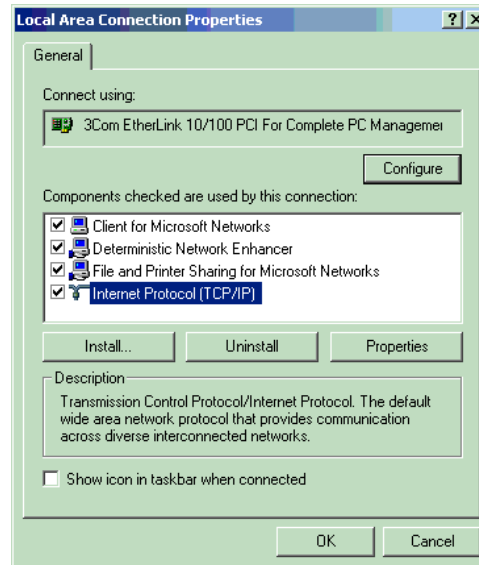

Fig. A1: Selecting the Internet Protocol
5. *Right-click* the **Local Area Connection**, and then click **Properties** from the drop down menu (Fig. A1).